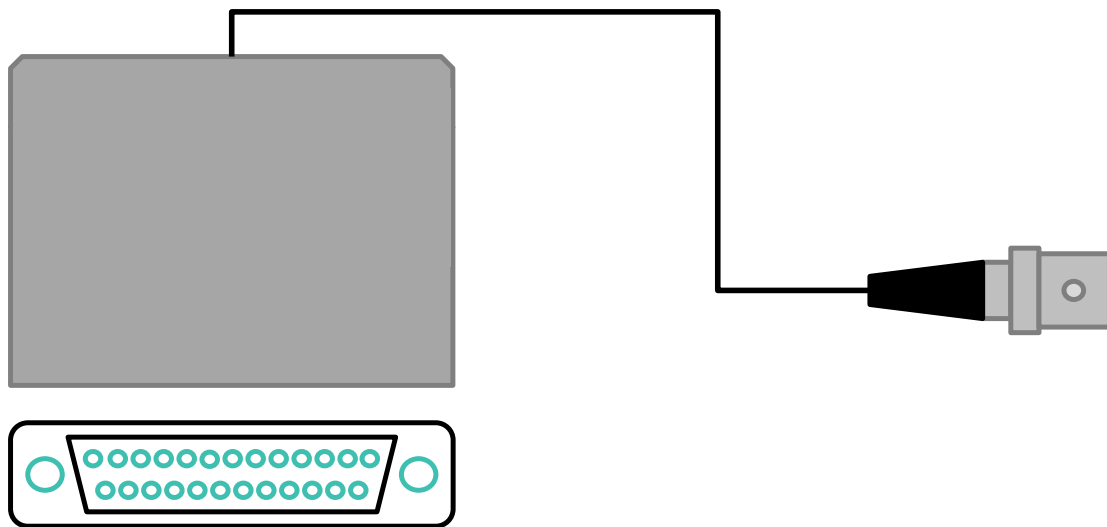

Figure 19 - DIO cable for the Series 7 and Series 8 PGSTAT instruments
- For all the supported Autolab instruments, except the PGSTAT204 and Multi Autolab M204, a male DIN25 to female BNC cable is supplied with the Optical Bench (see Figure 19). This cable can be connected to either P1 or P2 of the instrument.